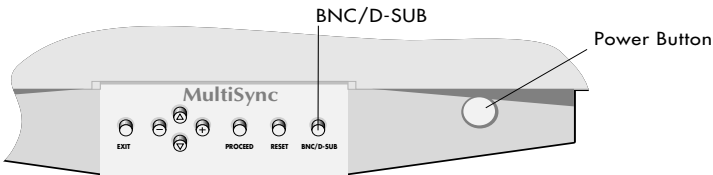

Figure E.1
5. Turn on the monitor (**Figure E.1**) and the computer.
6. The Factory Setting for your monitor is set for D-SUB installation. If you are using a BNC cable connection, push the BNC/D-SUB button on the front of the monitor (**Figure E.1**) to switch settings.